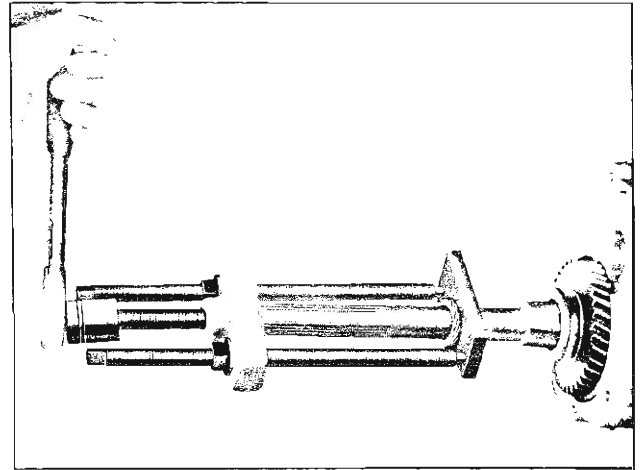

Fig. 8M—Removing Speedometer Gear with J-5814
7. Remove speedometer gear and reverse gear. The speedometer gear may be removed using Tool J-5814 as shown in Figure 8M.